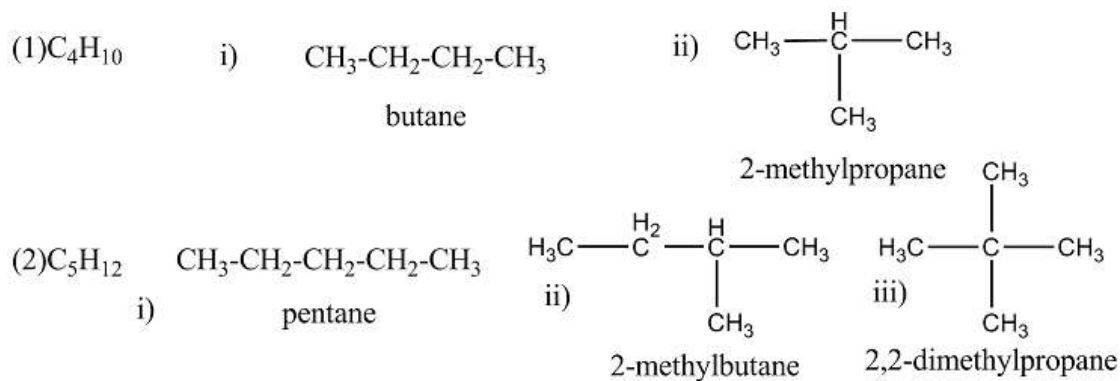

Figure 4.1: Chain isomers
Isomers differ in carbon chain or skeleton, for example in (1)  $C_4H_{10}$  has two chain isomers possible (2)  $C_5H_{12}$  has three chain isomer possible.(fig. 4.1)